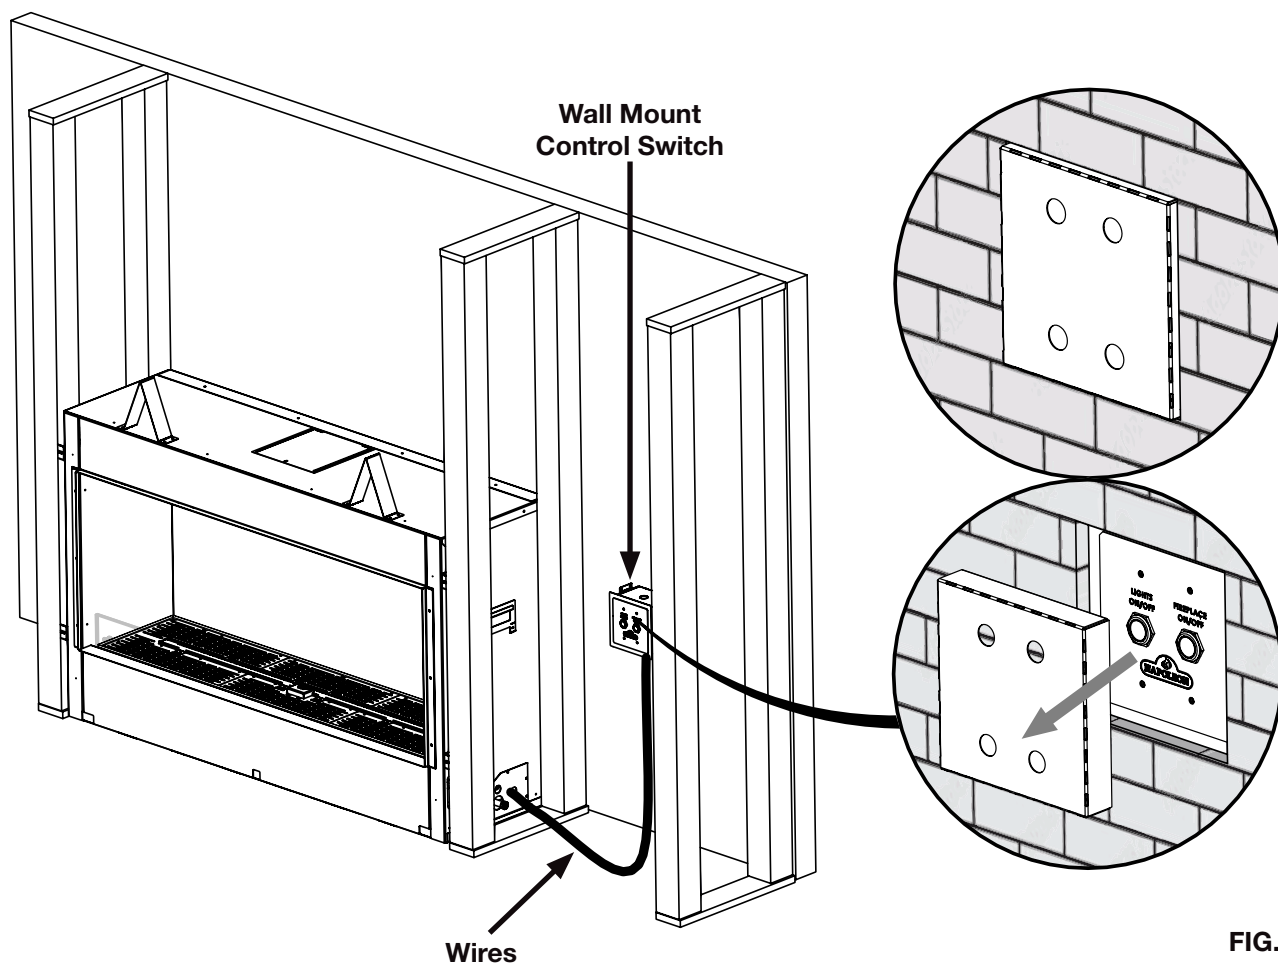

FIG. 3
3. Install the control switch using the nailing tabs and the 20' (6m) wire provided. Note the tabs can be bent for install if required. (FIG 3)
4. Remove the template after finishing materials have been installed. (FIG 3.)